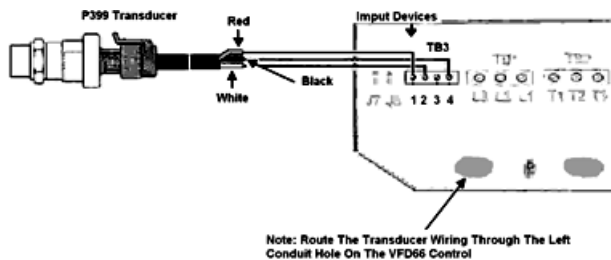

FIGURE 6 - P399 PRESSURE TRANSDUCER WIRING
See Figure 6.
- Cut hole in the left most bushing in the bottom of the VFD66 control. See Figure 6. Push transducer sensor wires through this bushing.
- Connect red wire from transducer to terminal (1) on terminal block (TB3) located on the VFD66 Control.
- Connect black wire from transducer to terminal (4) on terminal block (TB3).
- Connect white wire from transducer to terminal (2) on terminal block (TB3).